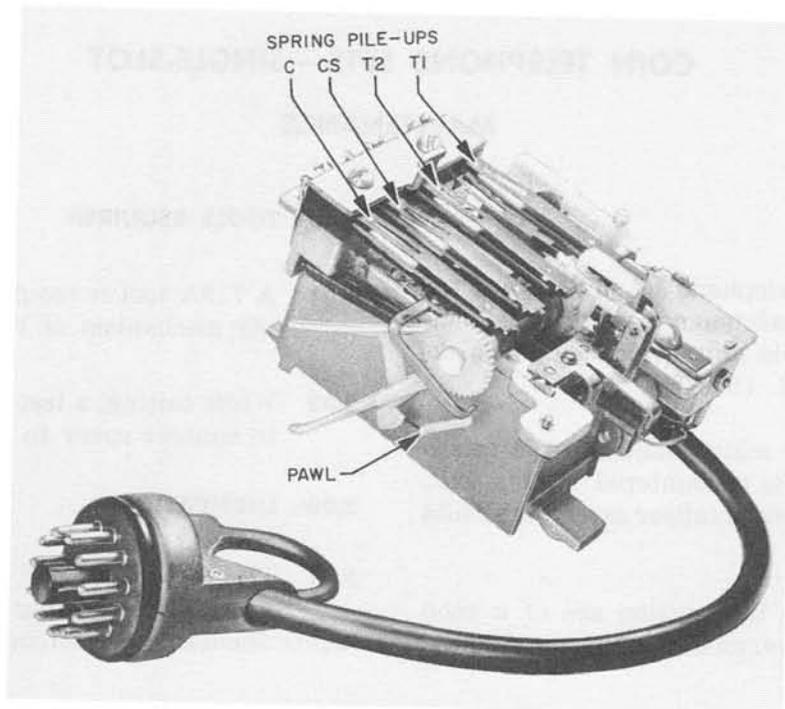

Fig. 2 – Totalizer Spring Pile-ups
Extreme care must be used whenever totalizer is set. Avoid damaging pawl and spring pile-ups. (See Fig. 2.)
4.02 Two paper clips, or equivalent, are used to set the totalizer. Be sure totalizer is at zero position. This position is identified when springs T2 (Fig. 2) rest in depression on shaft. To set totalizer:
4. Rotate clip from bottom to top until desired setting is reached. (See Fig. 2.) The setting is identified by the position of the offset in relation to zero setting. Each notch (10 degrees of turn) changes the setting 5 cents.